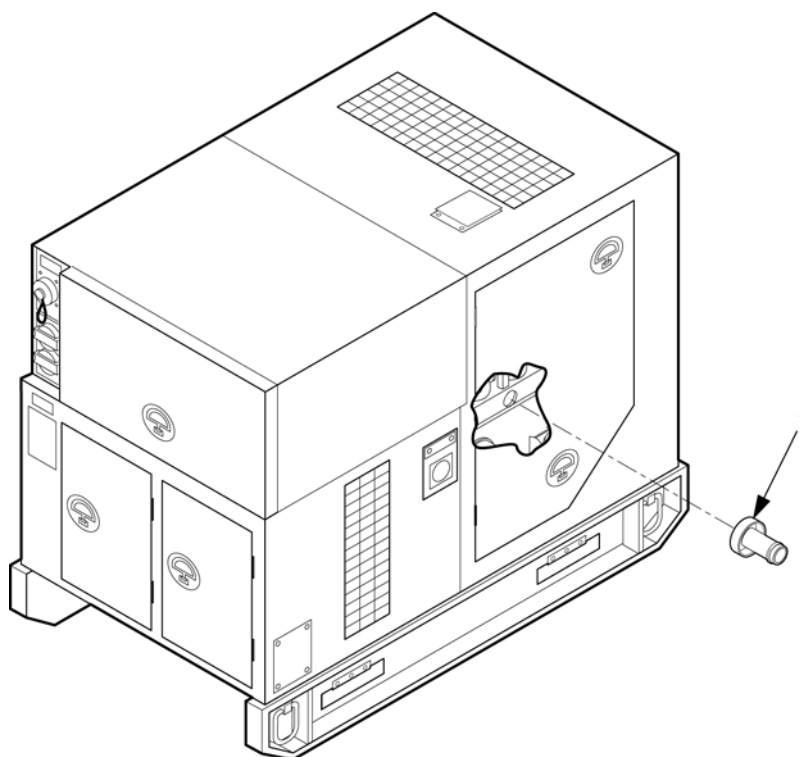

Figure 5-6. Expansion Plug.
29. Remove freeze plug (1), Figure 5-6, from right side engine block. Apply retaining compound to the mating surface of expansion plug (1). Install expansion plug (1), flush with the engine block.